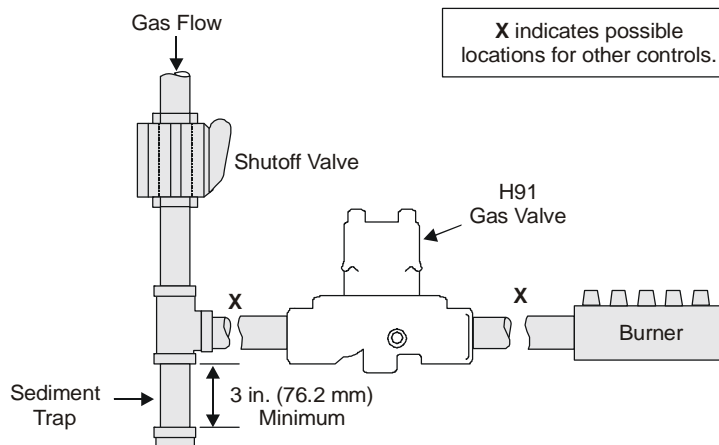

Figure 2: Typical H91 Installation
7. Mount the valve to the pipework. Use an approved pipe joint sealing compound on the male threads before assembly. Remove excess compound after mounting the valve to the pipework. Threads of the pipe and nipples must be smooth and free of tears and burrs. Steam clean all piping to remove foreign substances such as cutting oil or thread chips. A sediment trap should also be installed in accordance with the National Fuel Gas Code NFPA 54 (Figure 2).